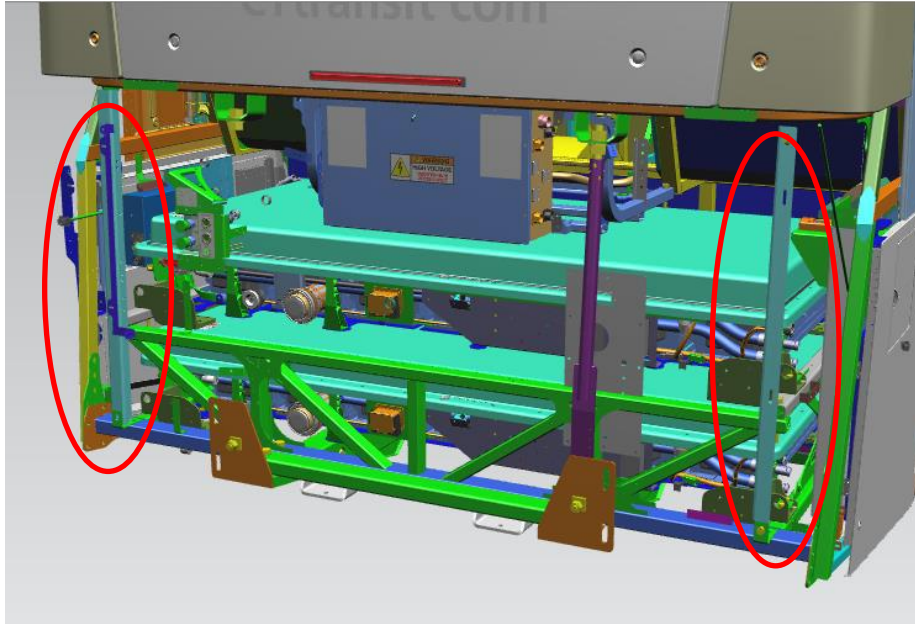

Figure 4: Lower Corner Pillars and Rear Door Removed
9. Remove the lower corner pillars (including turn signals and brake lights) and brackets. Reference Figure 4 below. Save hardware for reuse.